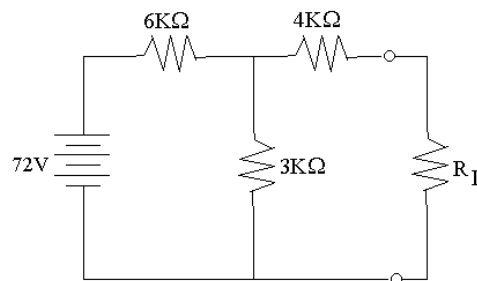

Fig.1
Q.62 Determine the current flowing through the load resistor (R_L) when $R_L = 6K\Omega$ for the network shown below in Fig.1 by using Thevenin's theorem. (5)